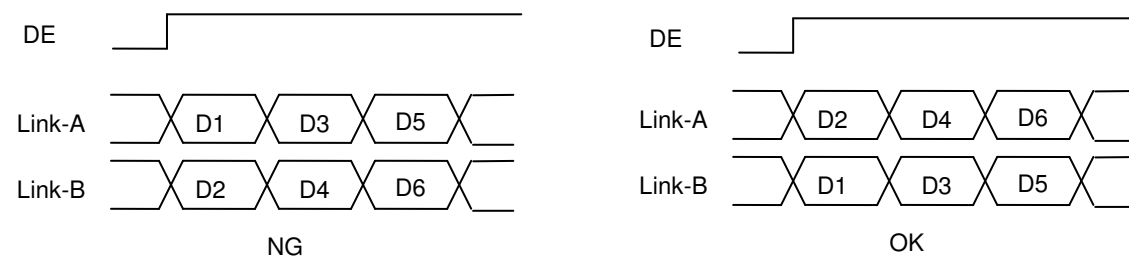

Figure 9.1.9 LVDS input Restriction 2
②First data must be started from Master link. (see Figure 9.1.9)